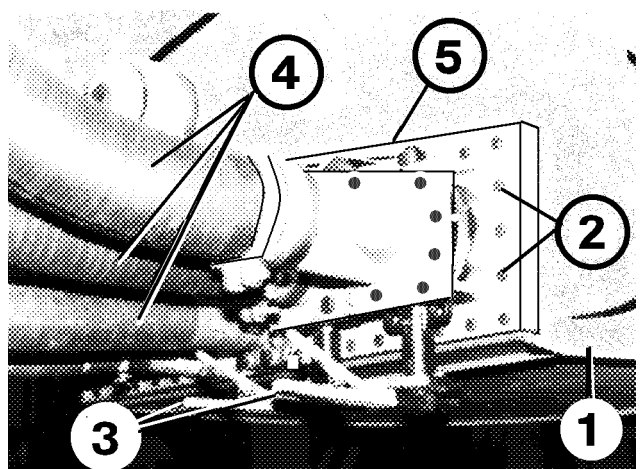

FIGURE 3-18. STRAINER REMOVAL ⁹¹²¹⁸
3. Disconnect pump suction hoses. (4, Figure 3-18).
4. Remove capscrews and lockwashers (2) securing cover (5) to the hydraulic tank. Remove and discard gasket.